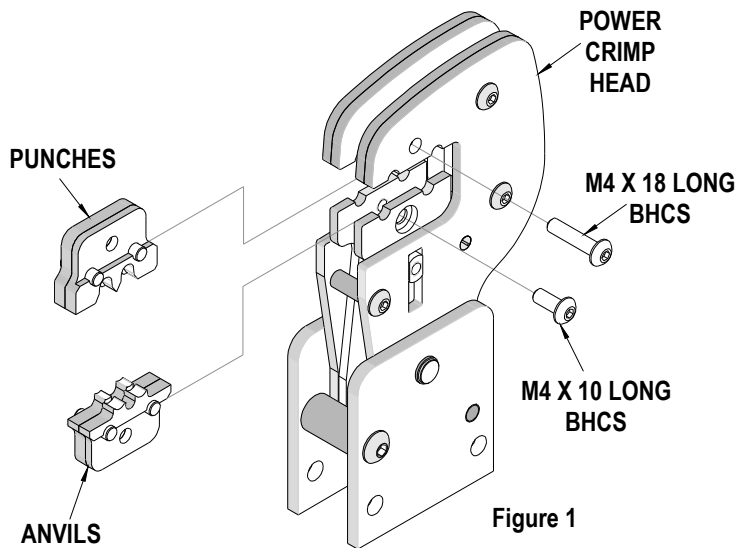

Figure 1
2. Insert the Punches into the top slots of the nest. Install the M4 x 18 long BHCS and tighten in place. See Figure 1.